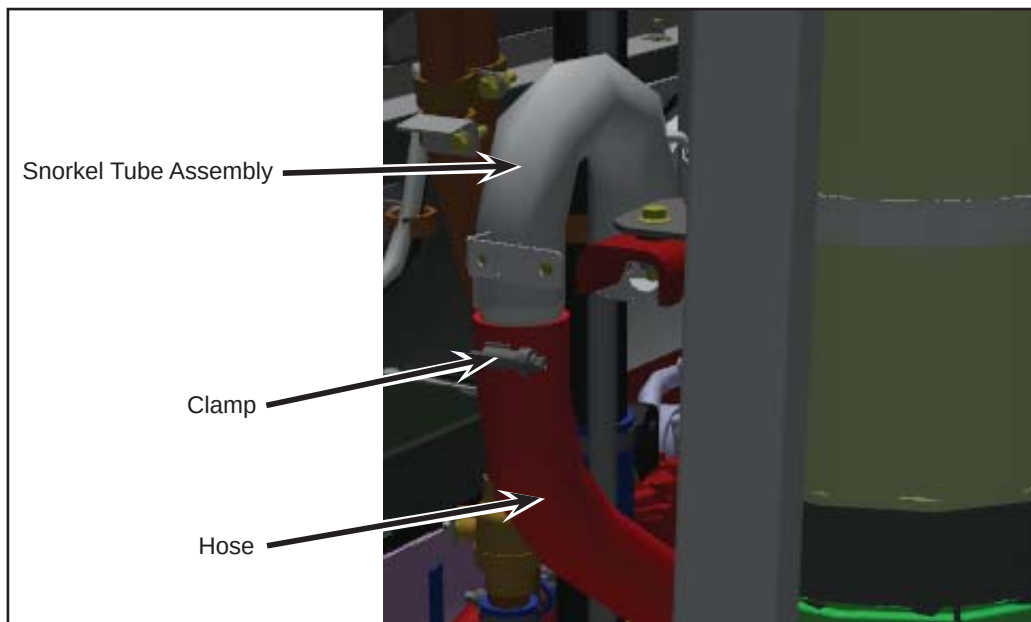

Figure 3 - Location of Clamp and Hose
- 1.3. Loosen the clamp and detach the hose from the snorkel tube assembly (see Figure 3).